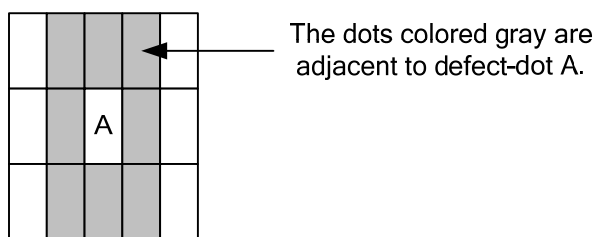

Fig. 12.5
- The definition of adjacent dot is shown as Fig. 12.5.